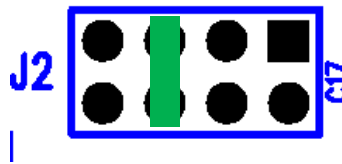

Figure 2: Output Voltage selection jumpers
**STEP 4:** Select the output voltage setting jumper. Figure 2 shows what output voltages are achieved by selecting each jumper position. Populating multiple jumper positions will allow you to select higher output voltages. You can populate up to all four jumper positions for the highest VOUT of approximately 3.73V with the resistors populated on the board.